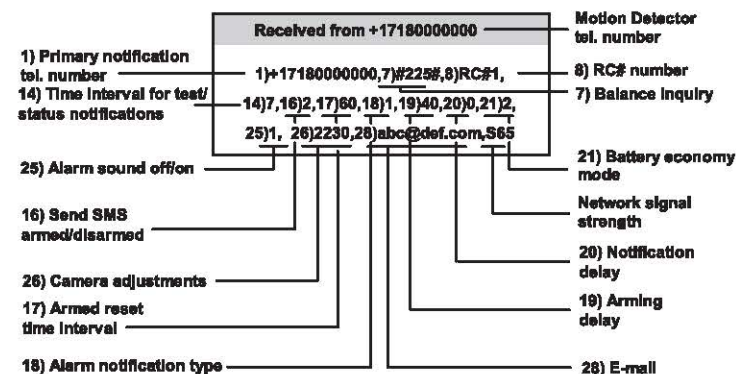

Fig. 8 Settings and values SMS
7. The primary designated notification telephone number will receive an SMS message containing the settings (see fig.8).